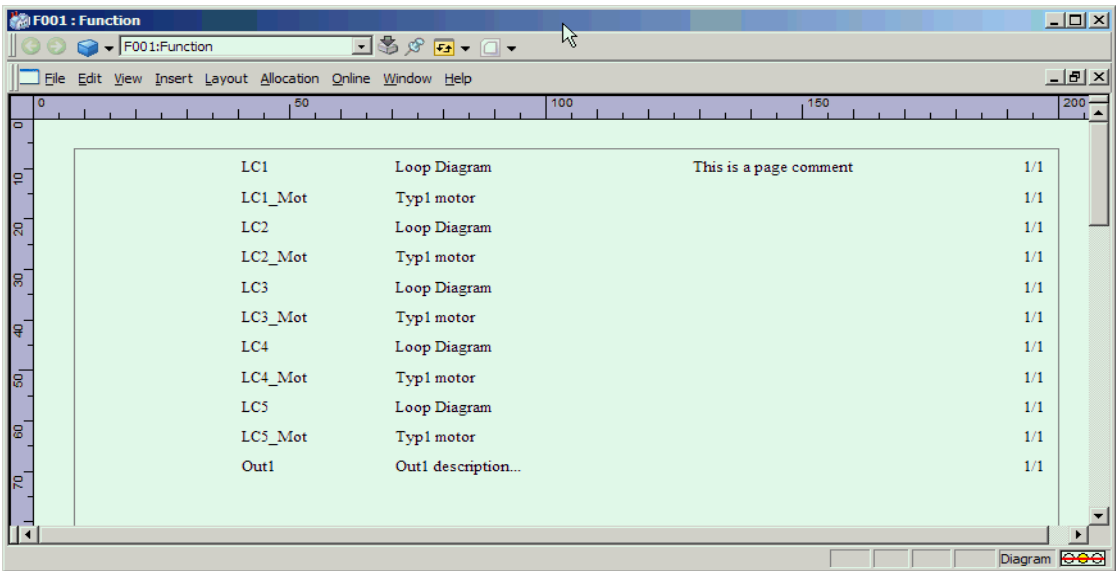

Figure 156. Complete Contents Diagram with Page Comment
- Recreate the F001 contents diagram with page comments by the **File > Create Contents** command. See Figure 156.